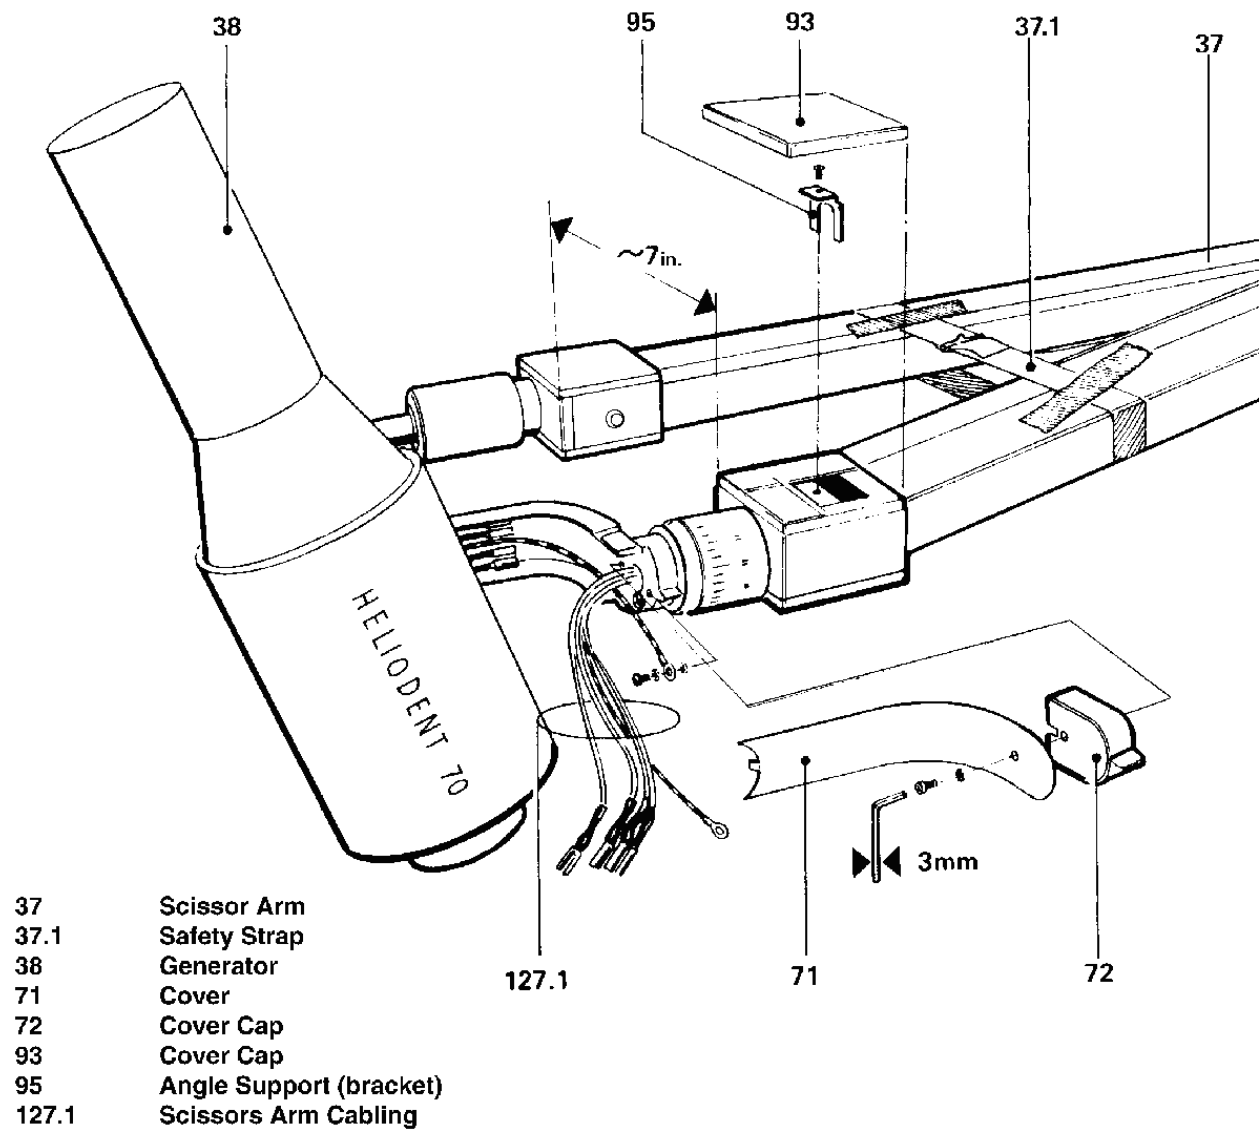

Figure 4-2. Scissors arm cabling fitting, part one.
(2) Remove the cabling to the generator. Refer to figure 4-2 and use the following steps.
- (a) Loosen the safety strap (37.1) until you have opened the scissors arm (37) about 7 inches.
- (c) Remove the cover cap (93).
- (d) Unscrew the cover (71) and cover cap (72).